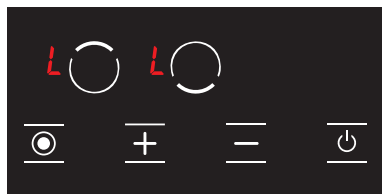

Figure 20
1. The **L** icon is displayed on all displays when the stove is on and the child lock is active. (see Fig. 20) The **L** and **H** icons are displayed alternatively if any hob is hot. You may turn the stove on or off with the **Power** key only.